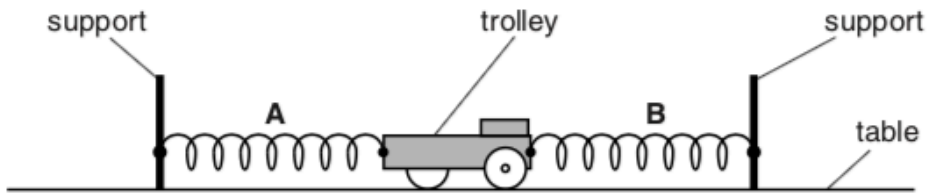

Fig. 3.1
(b) Fig. 3.1 shows a trolley attached by two **stretched** springs **A** and **B** to fixed supports.
- (i) On Fig. 3.1, draw an arrow to show the direction of the force exerted by spring **A** on the trolley. Label this arrow **F**. [1]